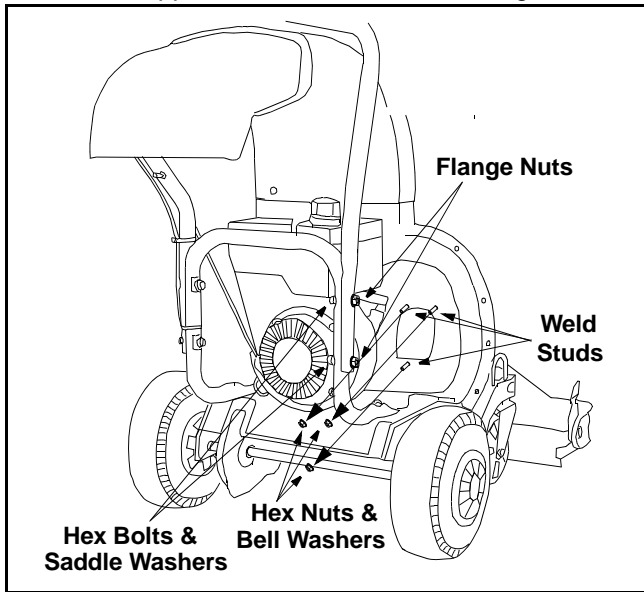

Figure 4
- Remove the two flange nuts, hex bolts and saddle washers which secure the right side of the upper handle to the right side of the lower handle. See Figure 4.
- Remove the three hex nuts and bell washers from the weld studs beside the opening on the right side of the chipper-shredder vacuum. See Figure 4.